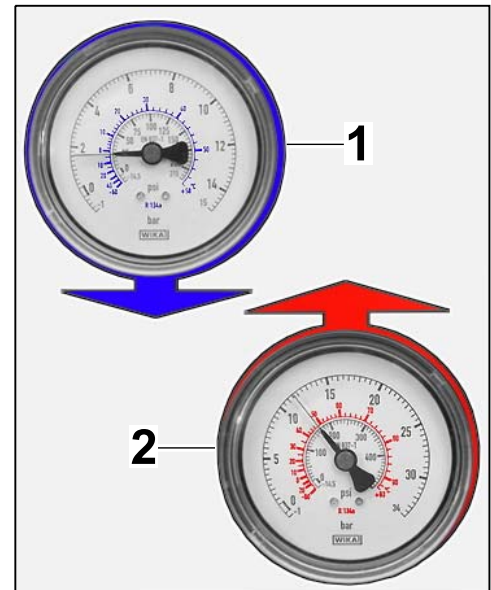

Figure 7
5.4.3 Check the performance of the new air-conditioning compressor (⇒ Figure 7).